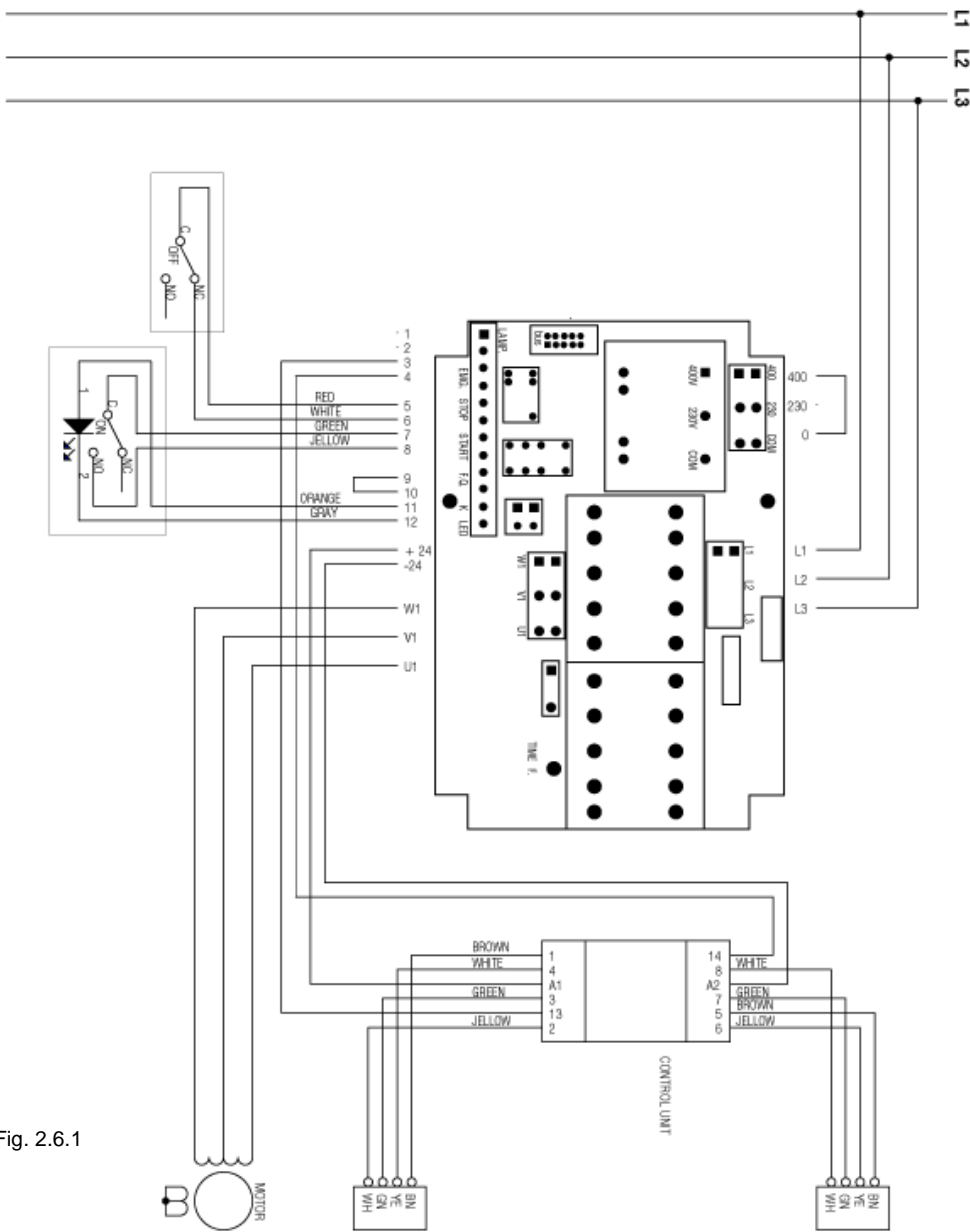

Fig. 2.6.1
2.6.1 - Three-phases wiring diagram at 400V (Fig. 2.6.1)